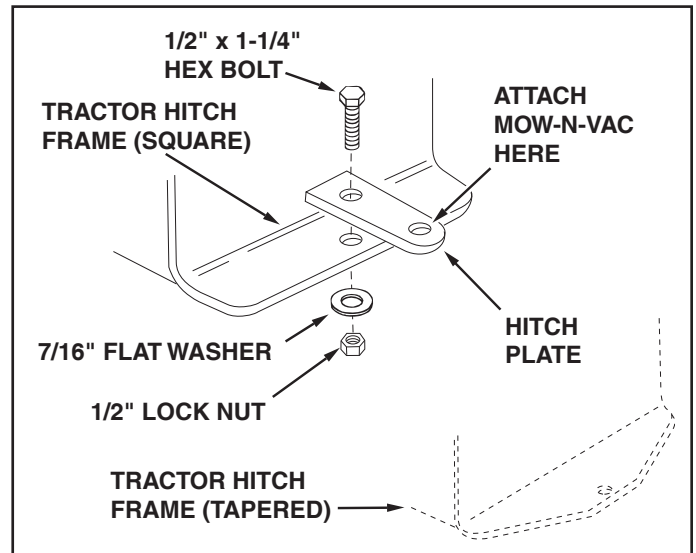

FIGURE 18
- Use a 1/2" x 1-1/4" hex bolt, a 7/16" flat washer and a 1/2" lock nut. See figure 18.